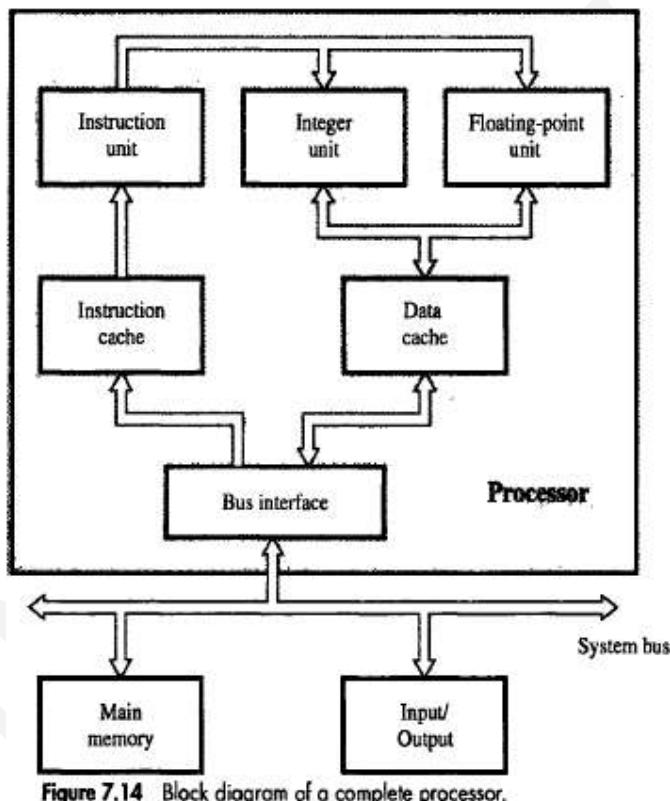

Figure 7.14 Block diagram of a complete processor.
**Integer Unit** → To process integer data. (Figure 7.14).